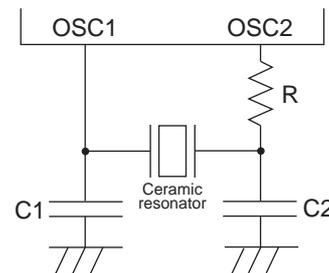

Figure 3 Ceramic Resonator Oscillation Circuit
- (*1) When oscillated internally under the oscillating conditions in Fig.3, up to the oscillation amplitude generated is allowable.